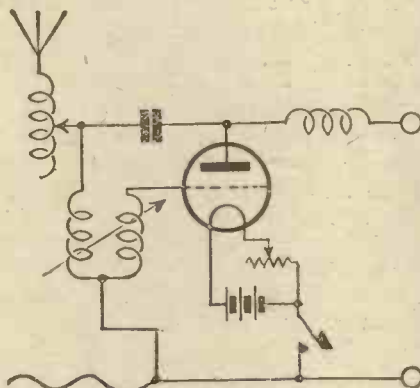

Fig. 41.—Keying Two Circuits Simultaneously.
(3) The circuits can be so arranged that the key opens both grid and plate circuits simultaneously, as in Fig. 41.
(4) The key may be so arranged that either aerial or earth are disconnected when the key is up, so that although oscillations are continuously being generated, no wave motions will be set up. Tappings off the aerial inductance may be taken so that the included number of turns will be shorted either when the key is up or down as arranged. This is known as the "marking-and-spacing-wave" method, since oscillations are always being maintained, but the waves emitted when the key is up are thus slightly detuned (about 5 per cent.) and are thus inaudible at the